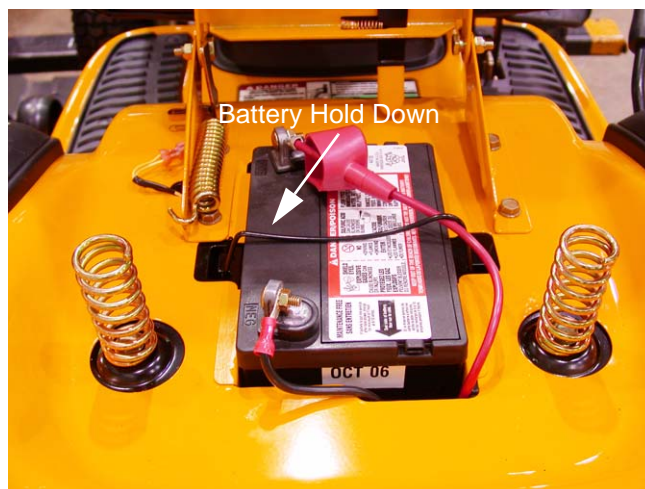

Figure 17.3
17.3. Remove the battery hold-down, remove the battery and the battery tray. See Figure 17.3.